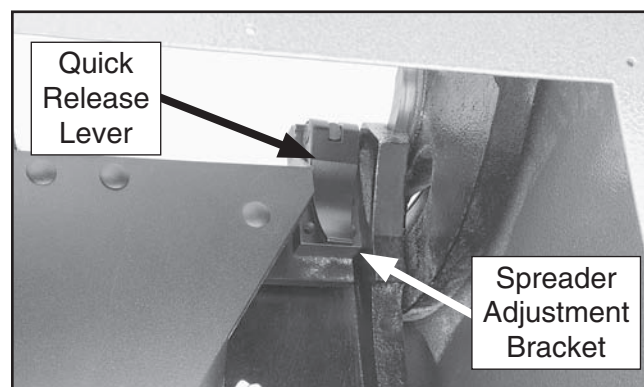

Figure 42. Quick release lever location (viewed from inside cabinet).
2. Raise the blade up all the way, then open the right access door and locate the quick release lever (see **Figure 42**).